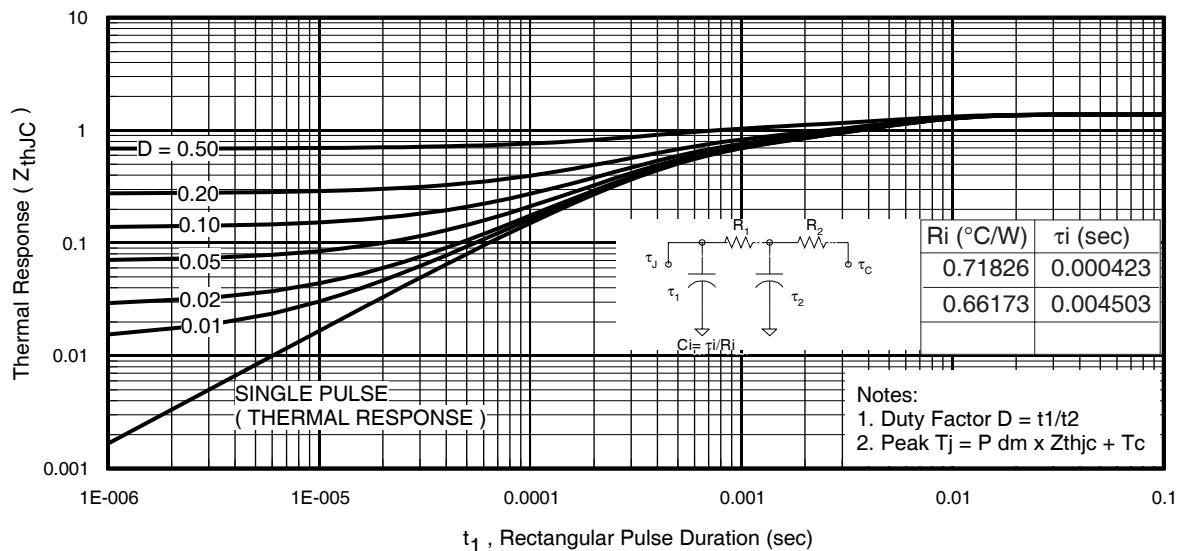
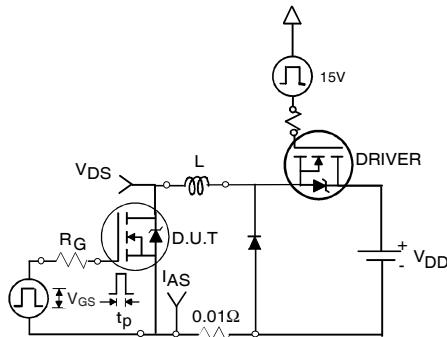

Fig 11. Maximum Effective Transient Thermal Impedance, Junction-to-Case
Fig 12a. Unclamped Inductive Test Circuit
3. Equation below based on circuit and waveforms shown in Figures 12a, 12b.
$Z_{thJC}(D, t_{av})$ = Transient thermal resistance, see figure 11)
- ① Repetitive rating; pulse width limited by max. junction temperature. (See fig. 11).
- ② Limited by $T_{J\max}$, starting $T_J = 25^\circ\text{C}$, $L = 0.21\text{mH}$ $R_G = 25\Omega$, $I_{AS} = 30\text{A}$, $V_{GS} = 10\text{V}$. Part not recommended for use above this value.
- ③ Pulse width $\leq 1.0\text{ms}$; duty cycle $\leq 2\%$.
- ④ $C_{oss\ eff}$ is a fixed capacitance that gives the same charging time as C_{oss} while V_{DS} is rising from 0 to 80% V_{DSS} .
- ⑤ Limited by $T_{J\max}$, see Fig.12a, 12b, 15, 16 for typical repetitive avalanche performance.
- ⑥ This value determined from sample failure population. 100% tested to this value in production.
- ⑦ When mounted on 1" square PCB (FR-4 or G-10 Material). For recommended footprint and soldering techniques refer to application note #AN-994
- ⑧ R_θ is measured at T_J approximately 90°C